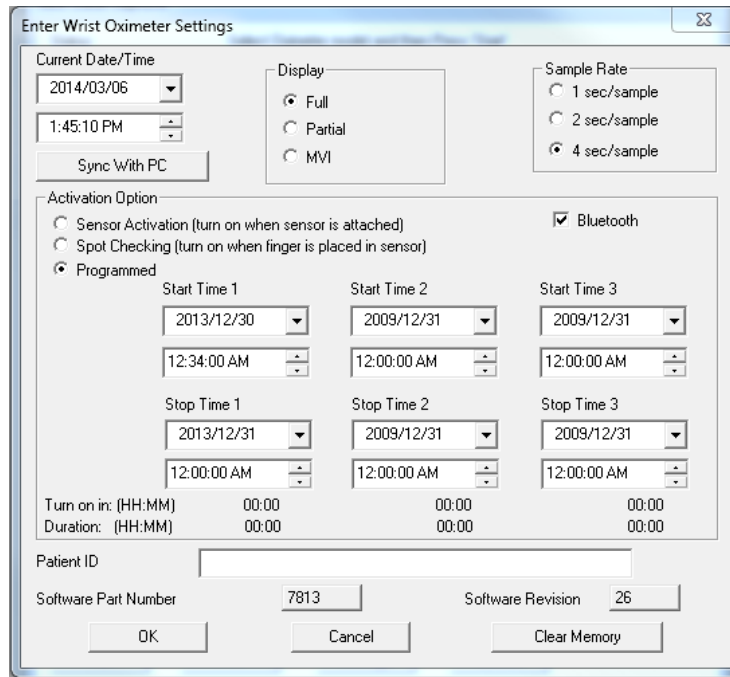

Figure 16: nVISION Settings Window
6. “Enter Wrist Oximeter Settings” window opens (figure 16). Update or change settings as needed.